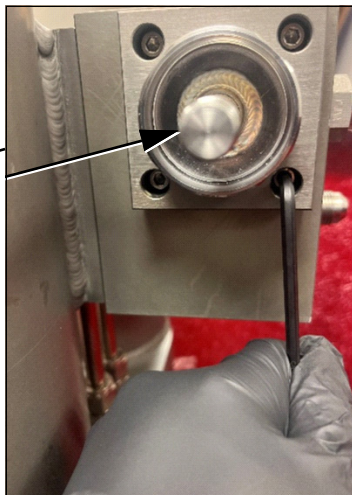

Figure 6. Removing Inlet Valve
- Locate the four hex socket mounting screws on the square body of the Inlet Valve. Using a 5/32" Allen key, remove the four screws and lock washers and set them aside (see Figure 6).